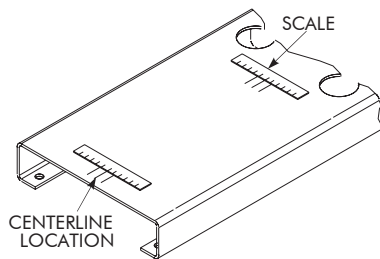

Figure 3B — Layout of Motor Mount Holes
- Measure the distance between the marks of each set. Split the distance between the marks in half. Mark the baseplate where this midpoint lies. Reference Figure 3B.